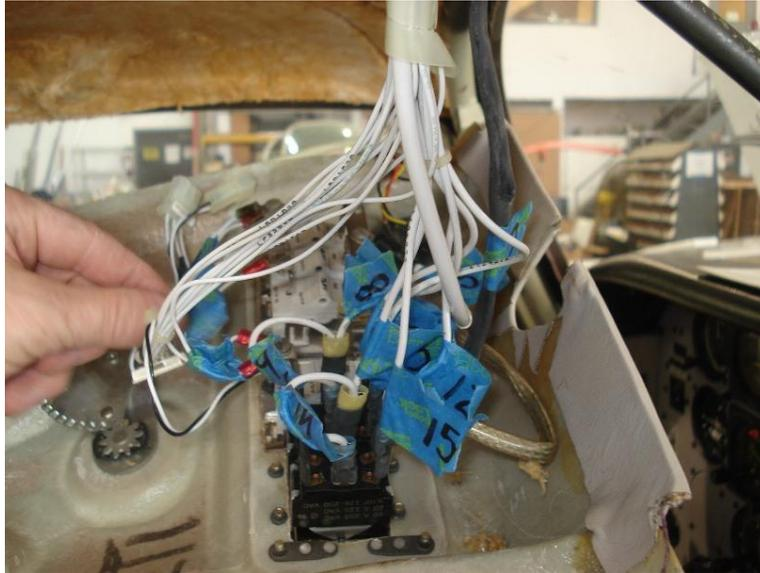

Figure 25 – Headliner Removal
- 1) Remove interior Hat Rack trim pieces and set aside for reuse. Remove the Headliner Assembly and set it aside for modification. Carefully mark and note all electrical connections to simplify reassembly. See Figure 25.